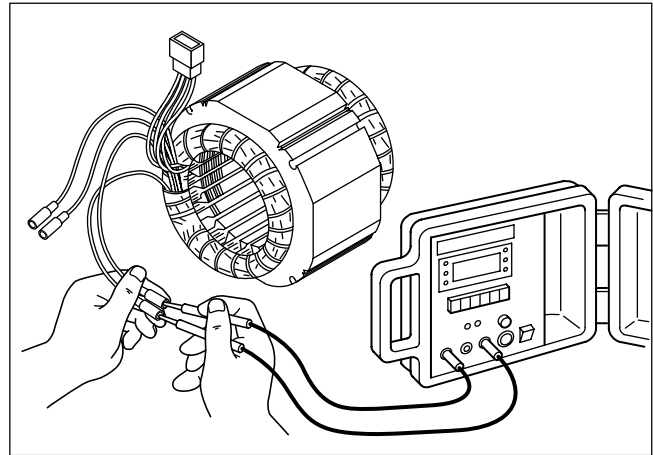

Fig. 11-1
- (1) Remove control panel and disconnect stator wires at the connectors.
- (2) Measure the resistance between terminals on stator leads. (See Fig.11-1) Refer to Table 9-1 of Section 9-4 STATOR for normal resistance.